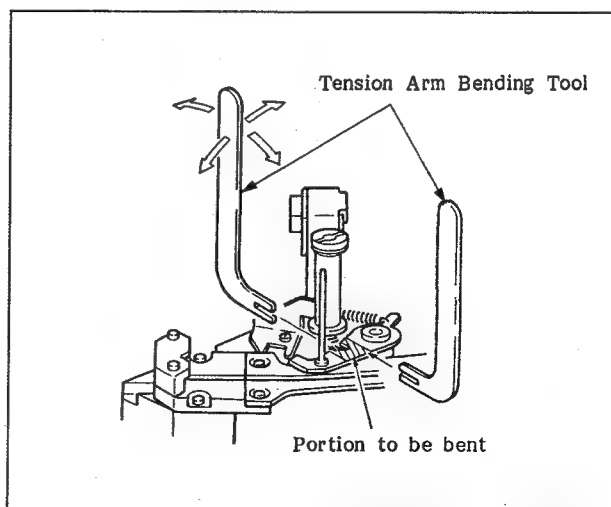

Fig. 6-54 Adjustment of the Inclination of the Tension Arm Shaft
Then, check that the clearance between the tension regulator shaft and the S plate tool in both, the upper and the lower portions is less than 50  $\mu\text{m}$ . If it is not, adjust it by bending the portion shown in Figure 6-54 by the tension arm bending tool.
6. In a similar manner, check that the clearance between the tension regulator shaft and the S plate tool is less than 50  $\mu\text{m}$  when the S plate tool fits against the S3 guide roller without clearance, as shown in Figure 6-53(b). If it is not, adjust it by bending the portion shown in Figure 6-54.